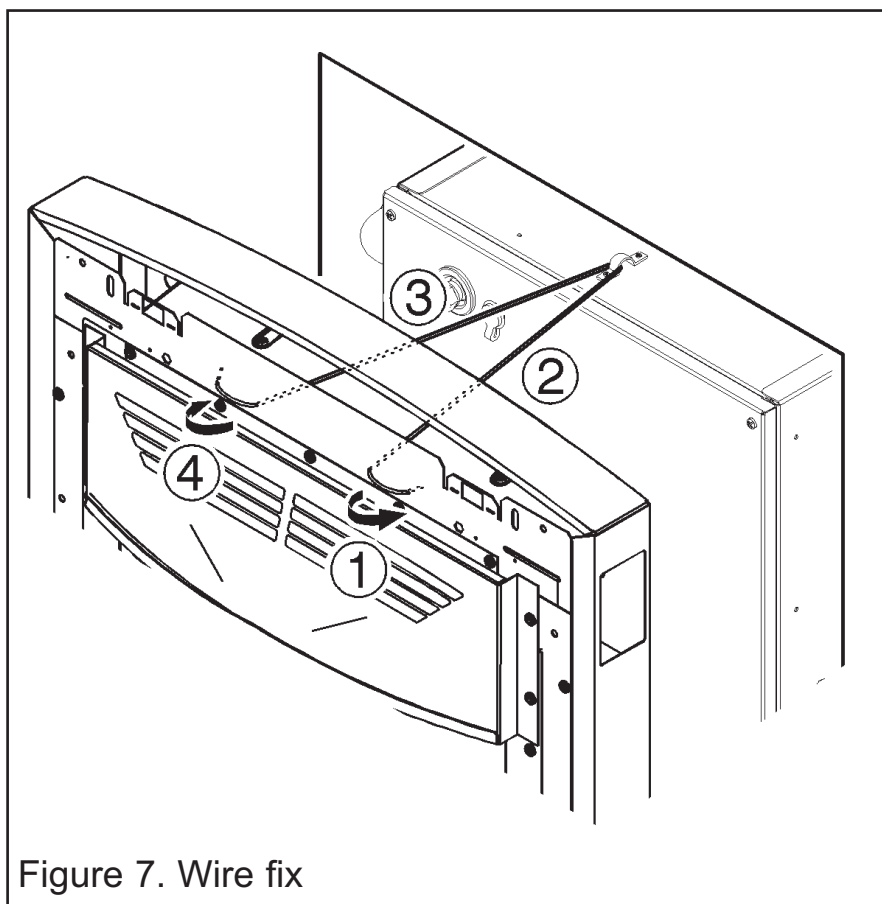

Figure 7. Wire fix
6. At the top of the firefront there are four small holes, two each side of the firefront. From the front of the firefront, thread about 50mm of the plastic wire into the outside small hole on the right side of the firefront (See point 1 - figure 7).
7. Thread the other end of the wire through the remaining small hole to the left. Continue to push the wire through this hole until there is only a small loop of wire at the front of the firefront (See point 2 - figure 7).
Take the long piece and thread this through the bracket located at the top centre of the boiler (See figure 7).
9. From the back of the firefront thread the long piece of plastic wire through the inner small hole on the left hand side of the firefront (See figure 7).
firefront is secure. Thread the wire through the remaining small hole to lock the wire and firefront in place (See point 4 - figure 7).